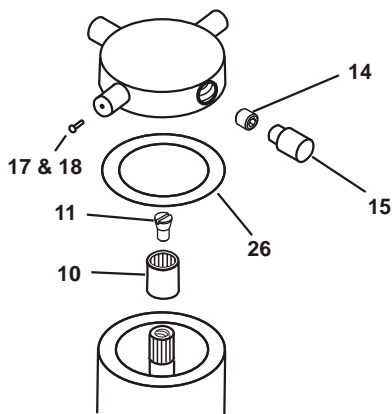

Figure 8
One of the four pins (15) does not have a red or blue button in its end. This pin, which should only be hand tight, unscrews to give access to the handle retaining grub screw (14). Unscrew the grub screw using a 3mm A/F Allen key and the handle will pull off. (Figure 8)